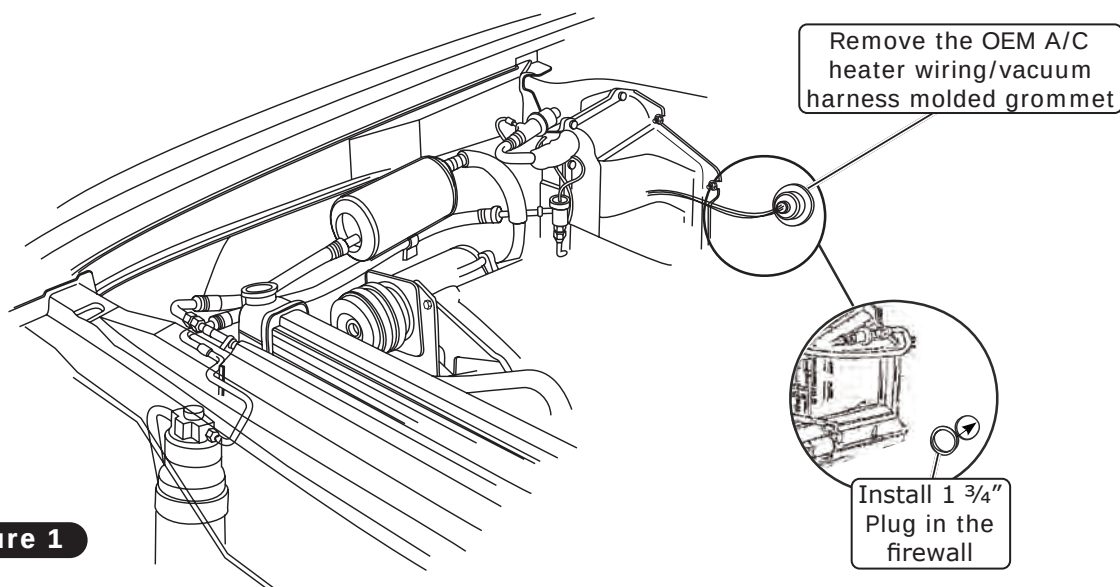

Figure 1
5. Remove the OEM condenser and drier (discard) (See Figure 1, below).
6. Remove the OEM A/C lines from the compressor to the evaporator (discard) (See Figure 1, below).
7. Remove the OEM compressor and bracket (discard) (See Figure 1, below).
9. Remove the OEM heater hoses, A/C hoses, hardlines and drier (discard) (See Figure 1, below).
10. Remove the OEM A/C and heater wiring/vacuum harness molded grommet (See Figure 1, below).
11. Install a 1 3/4" plug in the firewall (See Figure 1, below).